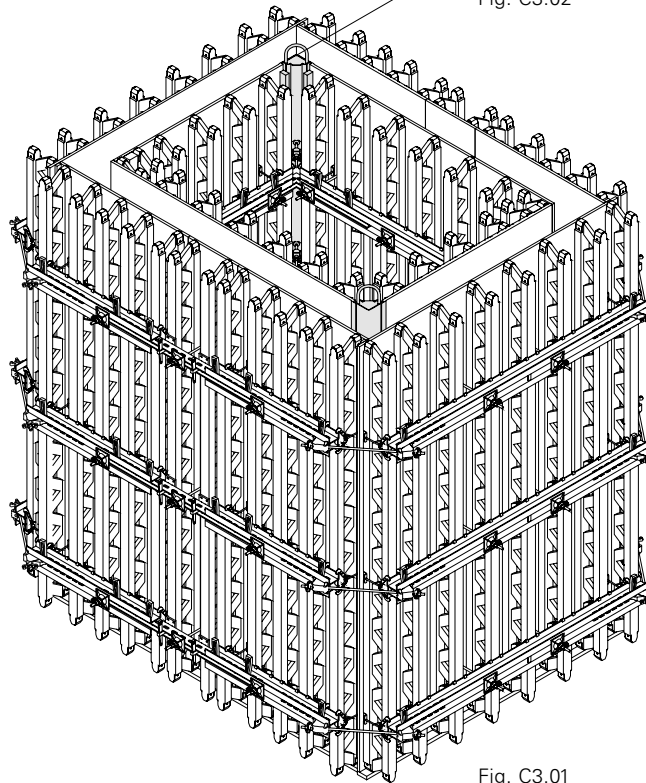

Fig. C3.01
3. Position external formwork, diagonally connect and anchor using tie yoke, tie rod, wingnut and KZ wedge. (Fig. C3.01)